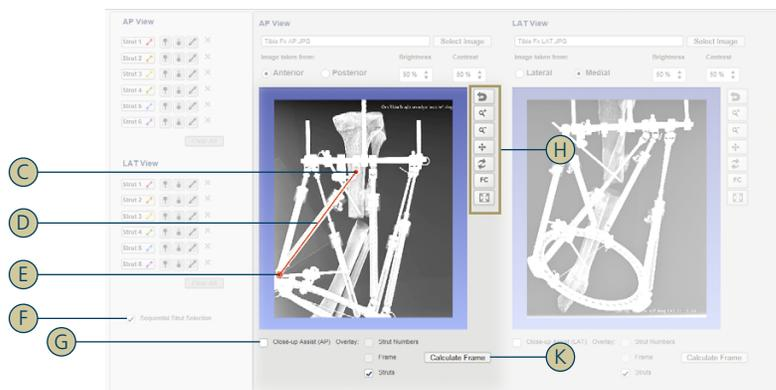
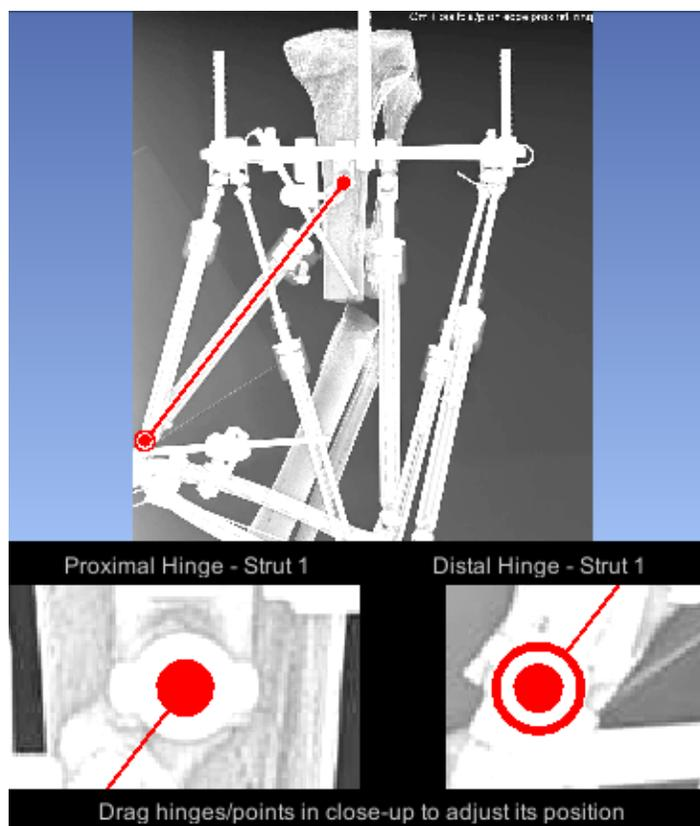

Figure 76 – PFM—Strut drawn
Figure 77 – PFM—Close-up Assist
2. Locate the proximal or distal hinge's position in the AP x-ray and click it. The selected position is marked with its associated hinge indicator and a red line to the mouse cursor indicates the strut (cf. [C] in figure 76).
3. Drag the mouse to the opposite hinge's position in the AP x-ray and click it. The selected position is marked with its associated hinge indicator (cf. [E] in figure 76).
4. Click a hinge and move to adjust its position. Click the strut line and move to adjust the position of the whole strut (cf. [D] in figure 76).
6. Click **Calculate Frame** (cf. [K] in figure 76) to calculate the frame model and show it on the actual x-ray image.
To delete a single strut marker, click the **Delete** icon (✕) right to the corresponding strut selection button (cf. [C] in figure 76 on page 68).
Select the option **Sequential Strut Selection** (cf. [F] in figure 76 on page 68) to automatically select the next strut not yet drawn for the selected view (AP or LAT) after finishing drawing a strut.
The **Close-up Assist** (cf. [G] in figure 76 on page 68) aids you with adjusting the positions of the hinges. When selected, zoomed views of the proximal and the distal hinges of the selected strut are displayed below the regular view (cf. figure 77). You can adjust the position of the hinges directly in the close-up views.
The AP view and the LAT view offer the following functions in their toolbars (cf. [H] in figure 76 on page 68):